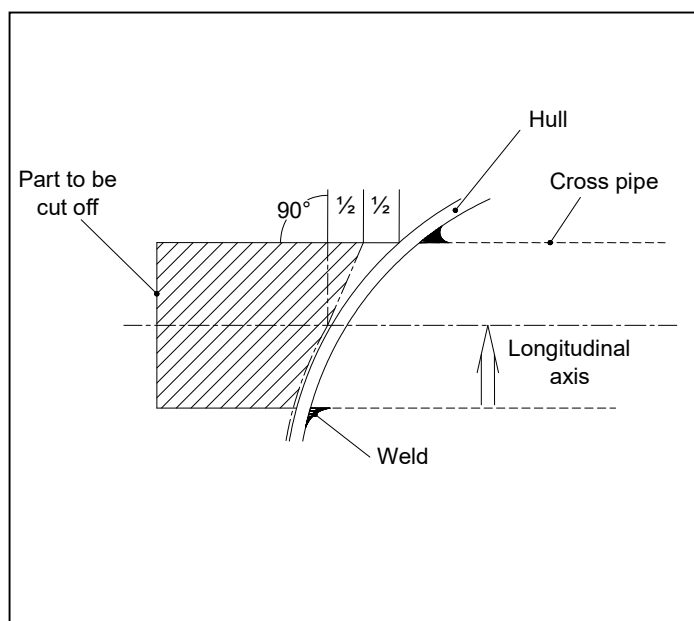

Fig. 2
- Establish a professional connection between the cross-pipe and the inner wall of the boat. In the case of metal hulls: weld the pipe and hull together with a clean, water-tight fillet weld. For GRP or wooden hulls use GRP and polyester resin. To ensure that the flow characteristics of the boat are not affected in any way, the flowing water should be lead past the opening of the pipe with as little turbulence as possible. To achieve this, firstly cut off the cross-pipe in accordance with drawing in fig. 2. The front part of the pipe must project slightly over the hull of the boat. At the other end, the pipe must be cut flush to the hull. To ensure that the bow thruster operates as efficiently as possible, the inner edge of the pipe must be rounded at the outlet as much as the thickness of the material allows.